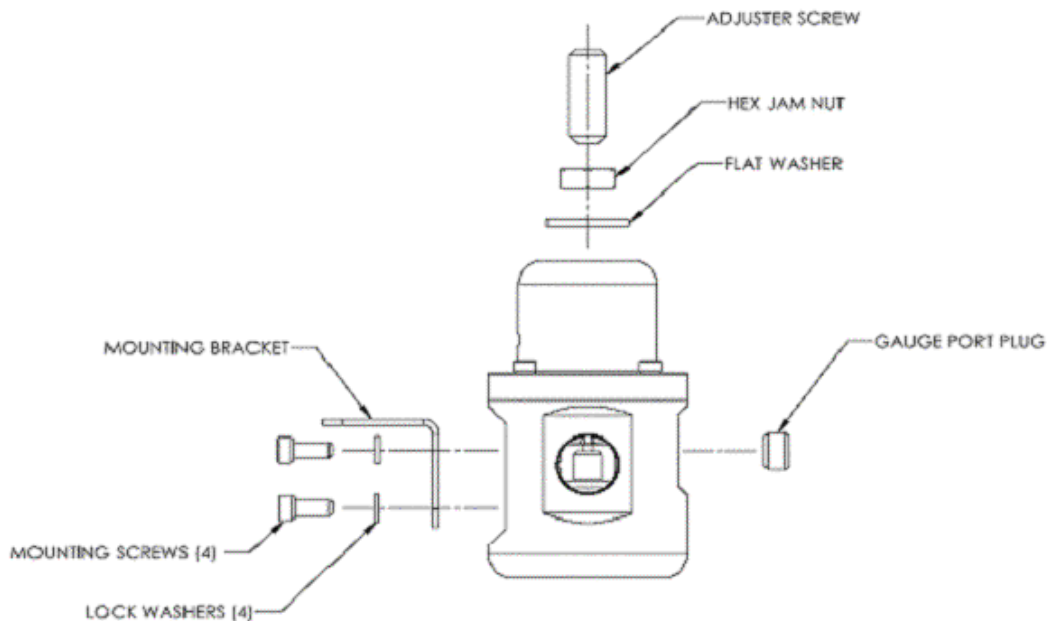

Figure 1 – SX Performance™ Model 15413 Fuel Pressure Regulator Assy.
5. Assemble regulator and bracket as shown in Figure 1 and install assembly at the desired location.